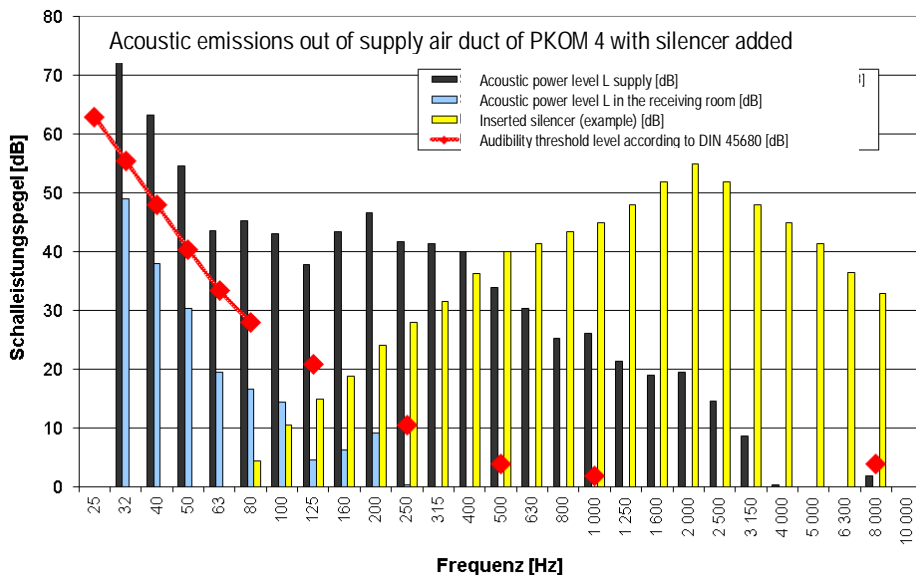

Figure 2: Acoustic emissions of supply duct of the unit PKOM 4. Manufacturer provides a suitable set of silencers
The sound level coming from supply air ducts 42 dB(A) and extract air ducts 59 dB(A) respectively is similarly too high and thus adequate silencers have to be used always to keep the noise level in all living rooms and sleeping rooms below 25 dB(A) – the audacity threshold. The producer will specify a configuration of the silencers, see figure 2.